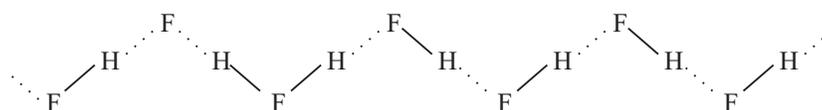

Fig. 20.2 : Hydrogen bonded chain in HF
- The boiling point of HF is unexpectedly high as compared to HCl (189K), HBr (206K) and HI (238K). This is due to the formation of hydrogen bonds between the F atom of one molecule and the H atom of another molecule (Fig. 20.2).